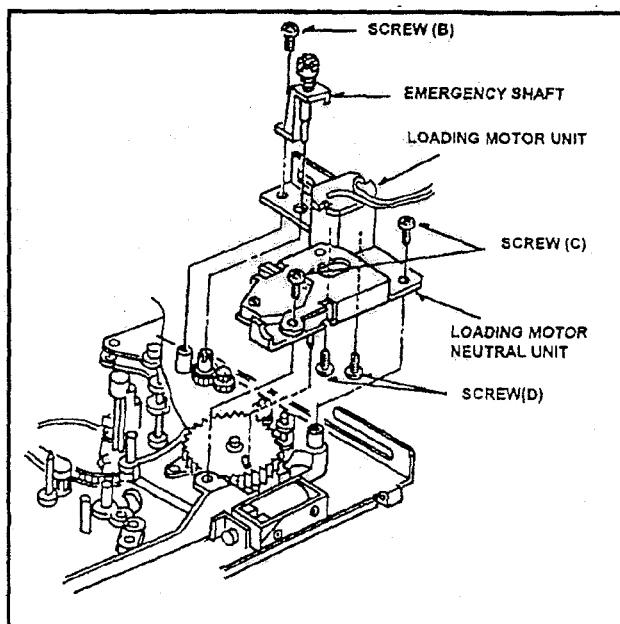

Fig. M11
3. Remove the Pinch Solenoid and Pinch Solenoid Lever.(Refer to item 4 & 5).
4. Unscrew the screw (B) to remove the Emergency Shaft as shown in Figure M11.
5. Unscrew the 2 screw (C) to remove the Loading Motor Unit as shown in Figure M11.
6. Unscrew the 2 screw (D) to remove the Loading Motor Neutral Unit as shown in Figure M11.